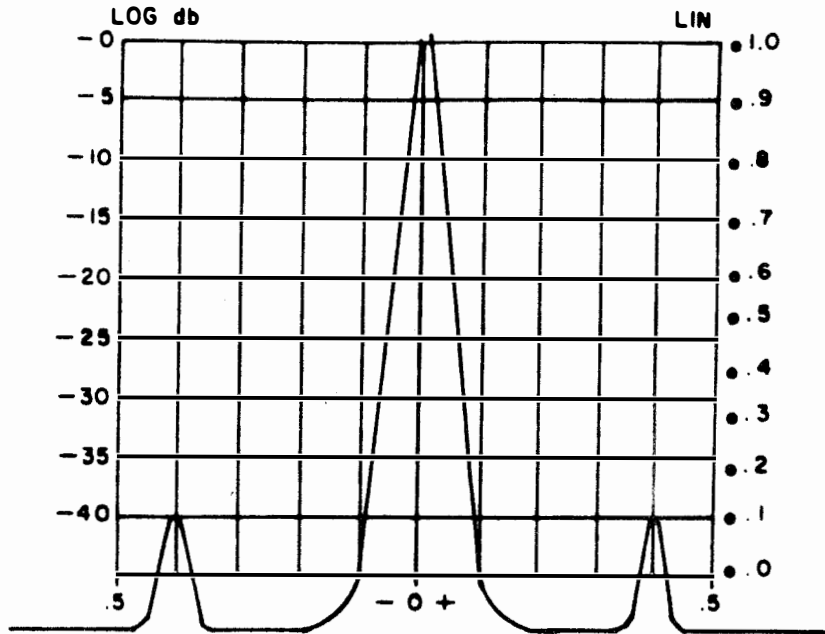

FIGURE 3-3
b. Figure 3-3 shows a 500kc signal, SWEEP WIDTH 150cps. The two side pips are 60cps from the center, and indicate a 60cps HUM -40db below the signal level.